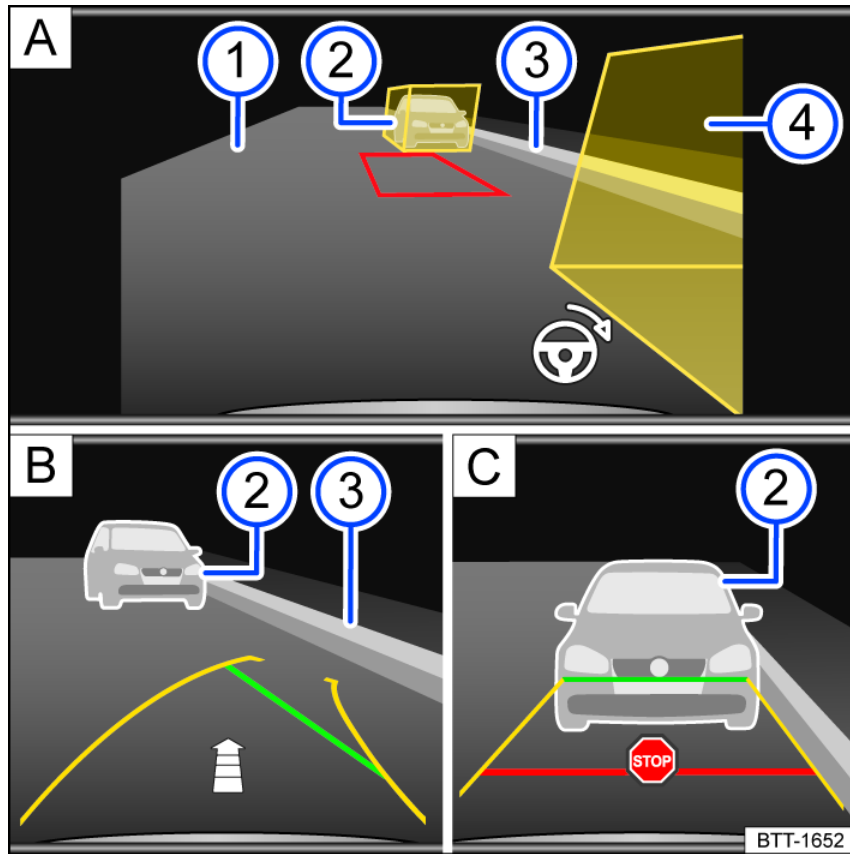

Fig. 141 Infotainment system: Parking parallel to the road.
- ① Road surface.
- ② Obstacle or assisting box.
- ③ Side boundary of the parking space.
- ④ Obstacle or assisting box.
4. Position the vehicle at a distance of approximately 1 m (3 ft) parallel to the parking row. The yellow assisting boxes must cover the obstacles fig. 141 A ②. The area in between must be free of obstacles.
5. Select the reverse gear. A red frame represents the target position of your vehicle fig. 141 A.
6. Turn the steering wheel until the red frame moves between the assisting boxes and becomes green fig. 141 A. Hold the steering wheel in this position while driving in reverse.
7. Drive slowly in reverse until the stop symbol appears or the green line aligns with the side boundary of the parking space fig. 141 C. An fig. 141 B arrow indicates the remaining distance to be driven based on the number of displayed segments.